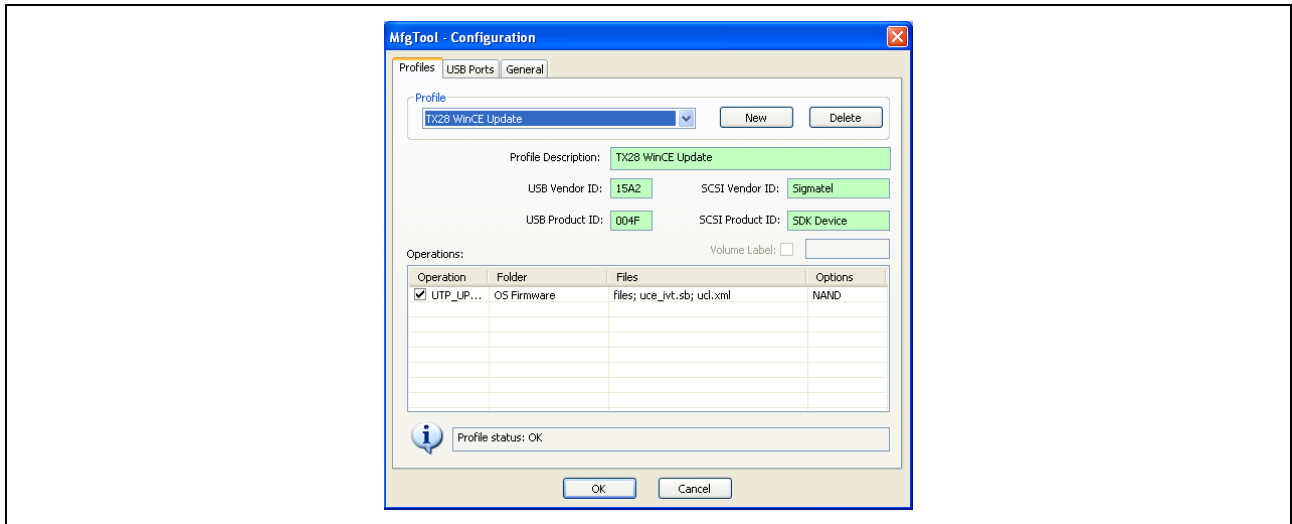

Figure 36 MfgTool Configuration Dialog
- From the main screen of the MfgTool, select the Options→Configuration menu item. The dialog shown in Figure 36 will be displayed